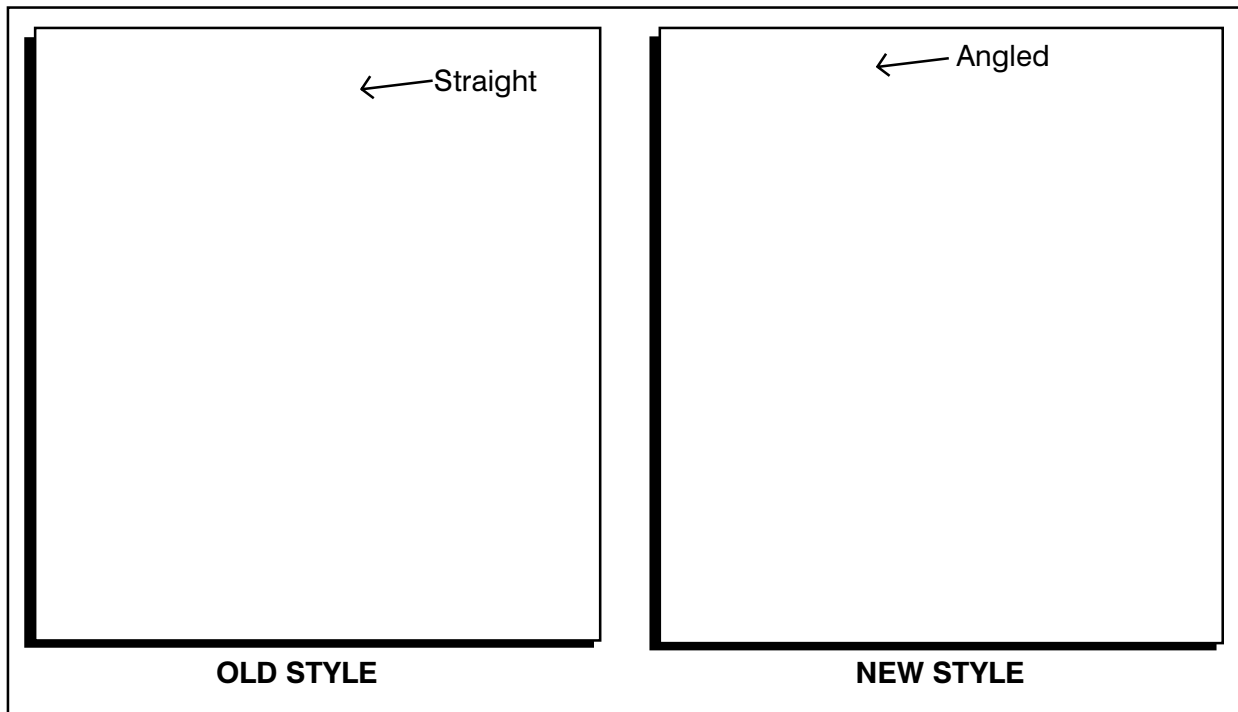

Figure 1 Identifying Your Engine.
- The spark plug on this model is mounted at an angle towards the front of the Go-Ped (Figure 1).